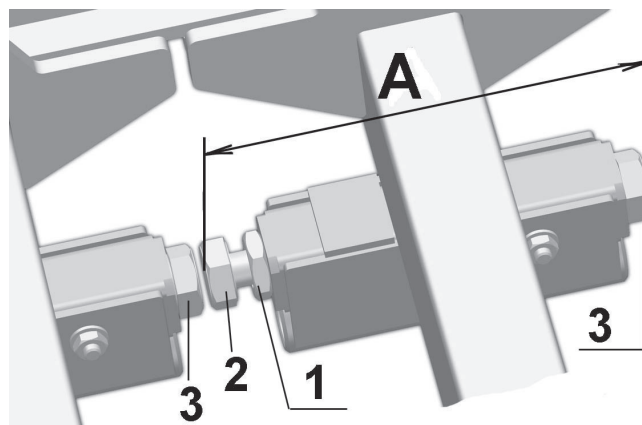

Fig 13. Actual sleeper width adjustment
1. Measure the actual distance A (Fig 13). If distance A differs from actual sleeper width, make adjustments according to points 2-4.
2. Loosen the locking nut (1).
3. Adjust the distance A to the sleeper width with the adjustable screw (2).
4. Tighten the locking nut (1).